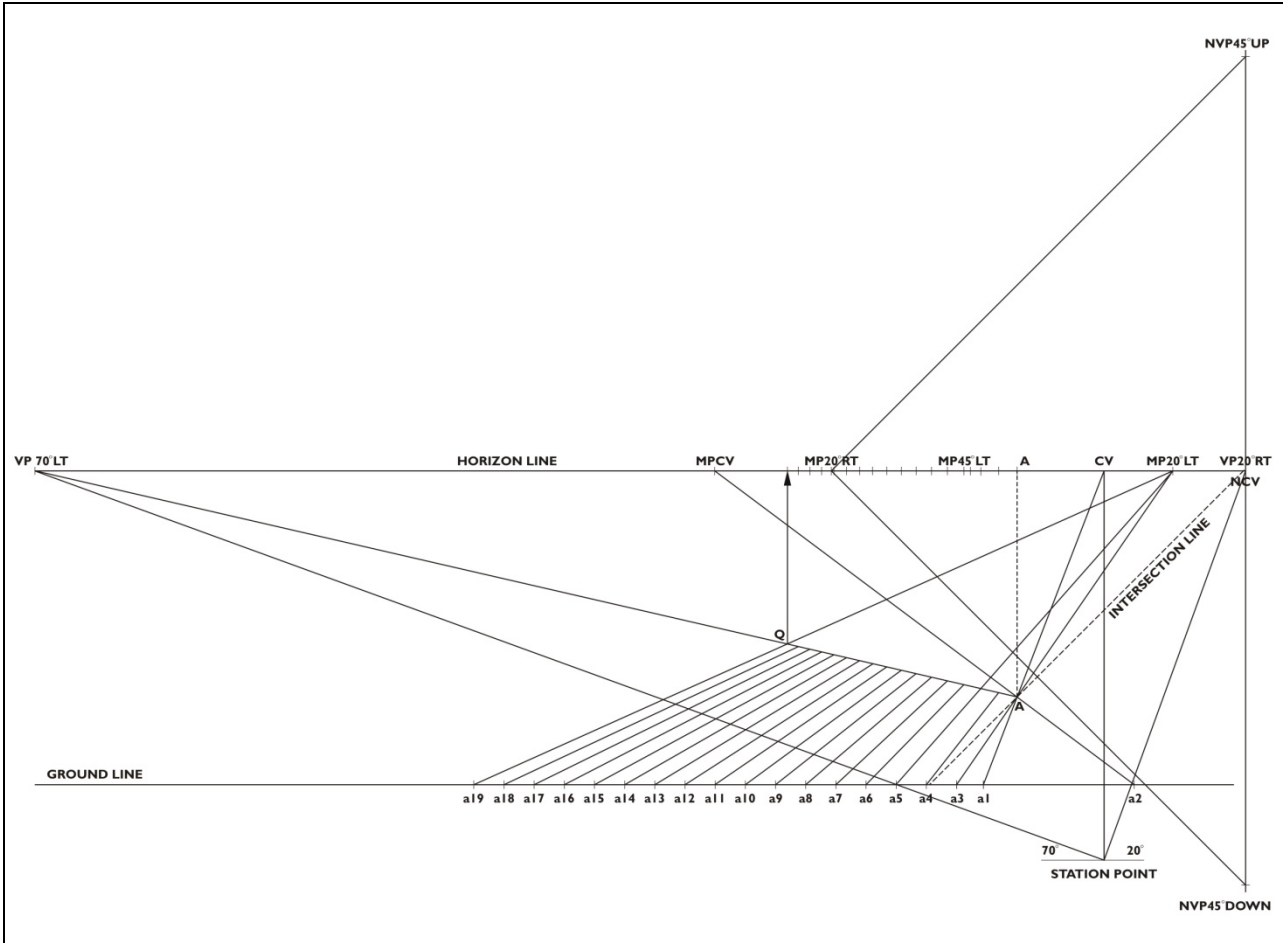

Figure 5.11 Construction of Three-Point Perspective Grid
1. To establish a Ground Line for measuring the vertically inverted sides, project a line from the New CV through point A on the ground to the original GL. This is called the Intersection Line. Refer to Figure 5.11.